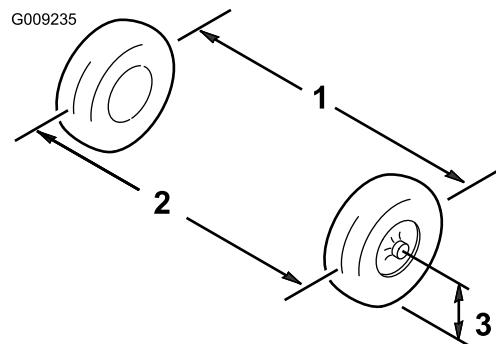

Figure 49
1. Measure the distance between both of the front tires at the axle height at both the front and rear of the front tires (Figure 49).